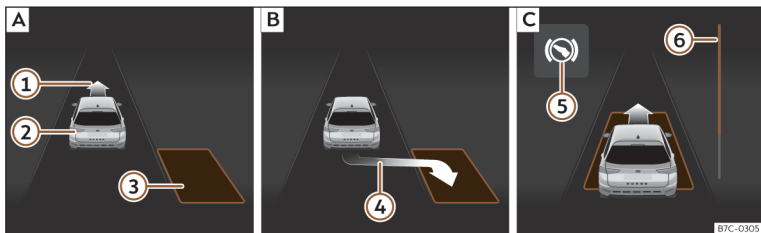
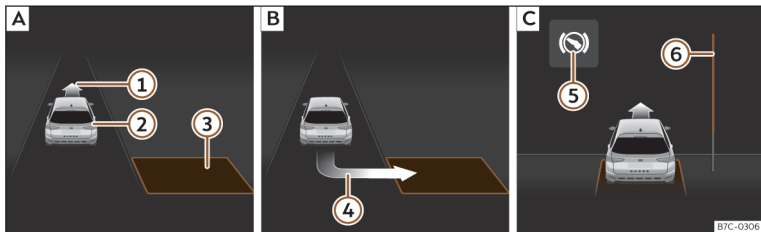

Fig. 134 On the instrument cluster display: parallel parking. **A**: Finding a parking space **B**: Parking position. **C**: Manoeuvring.
Fig. 135 On the instrument cluster display: angle parking. **A**: Finding a parking space **B**: Parking position. **C**: Manoeuvring.
- Look at the instrument cluster screen to see if the space has been detected as “appropriate” and if the correct position for parking has been reached >>> **Fig. 134 B** or >>> **Fig. 135 B**. The space is considered “appropriate” if the instrument cluster display shows the parking indication 4.
- Reverse until the continuous ParkPilot signal sounds; **OR**: reverse until the indication to move forward appears on the instrument panel display >>> Fig. 134 C or >>> Fig. 135 C; **OR**: reverse until the **Park Assist finished** message appears on the instrument cluster display. The progress bar ⑥ indicates the distance to cover.
- Press the brake pedal until the parking assist system completes the steering wheel turns; **OR**: until the symbol ⑤ goes out on the instrument panel screen.
- Move forward until the continuous ParkPilot signal sounds; **OR**: move forward until the reverse indication appears on the instrument panel display. The Park Assist system steers the vehicle forward and back until it centres it in the space >>> Fig. 134 C or >>> Fig. 135 C.
The progress bar >>> Fig. 134 ⑥ and >>> Fig. 135 ⑥ on the instrument cluster display shows the relative distance to be covered as a symbol. The greater the distance, the fuller the progress bar. When driving forward,